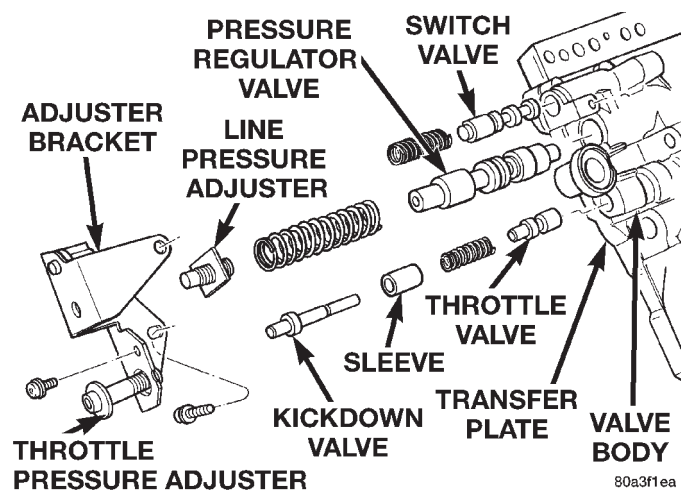

Fig. 40 Adjusting Screw Bracket, Springs, Valve Removal
(2) Remove adjusting screw bracket, line pressure adjusting screw (Fig. 40).
(3) Remove switch valve and spring, pressure regulator valve and spring, kickdown valve and spring, and throttle valve from valve body (Fig. 40).